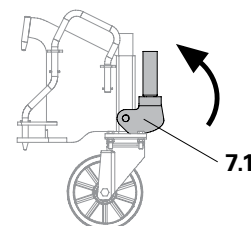

Fig. A5.06
5. Press eccentric plate (7.1) upwards. The formwork is lowered and the tube supports are pointing upwards. (Fig. A5.06)